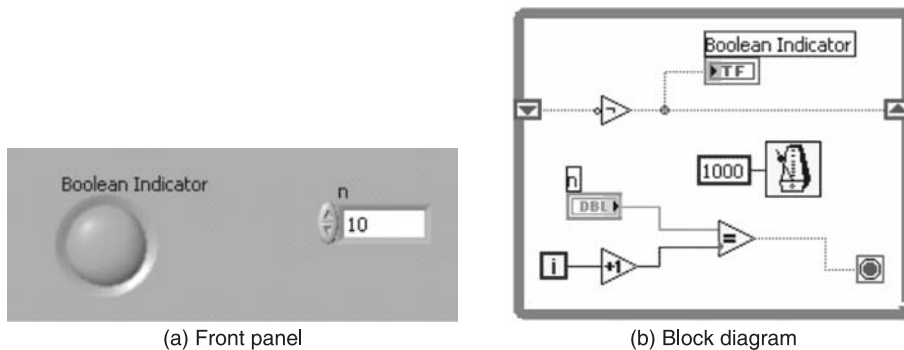

Figure P4.3
**Solution** Build the front panel and the block diagram as shown in Figures P4.3(a) and P4.3(b) to solve the problem.